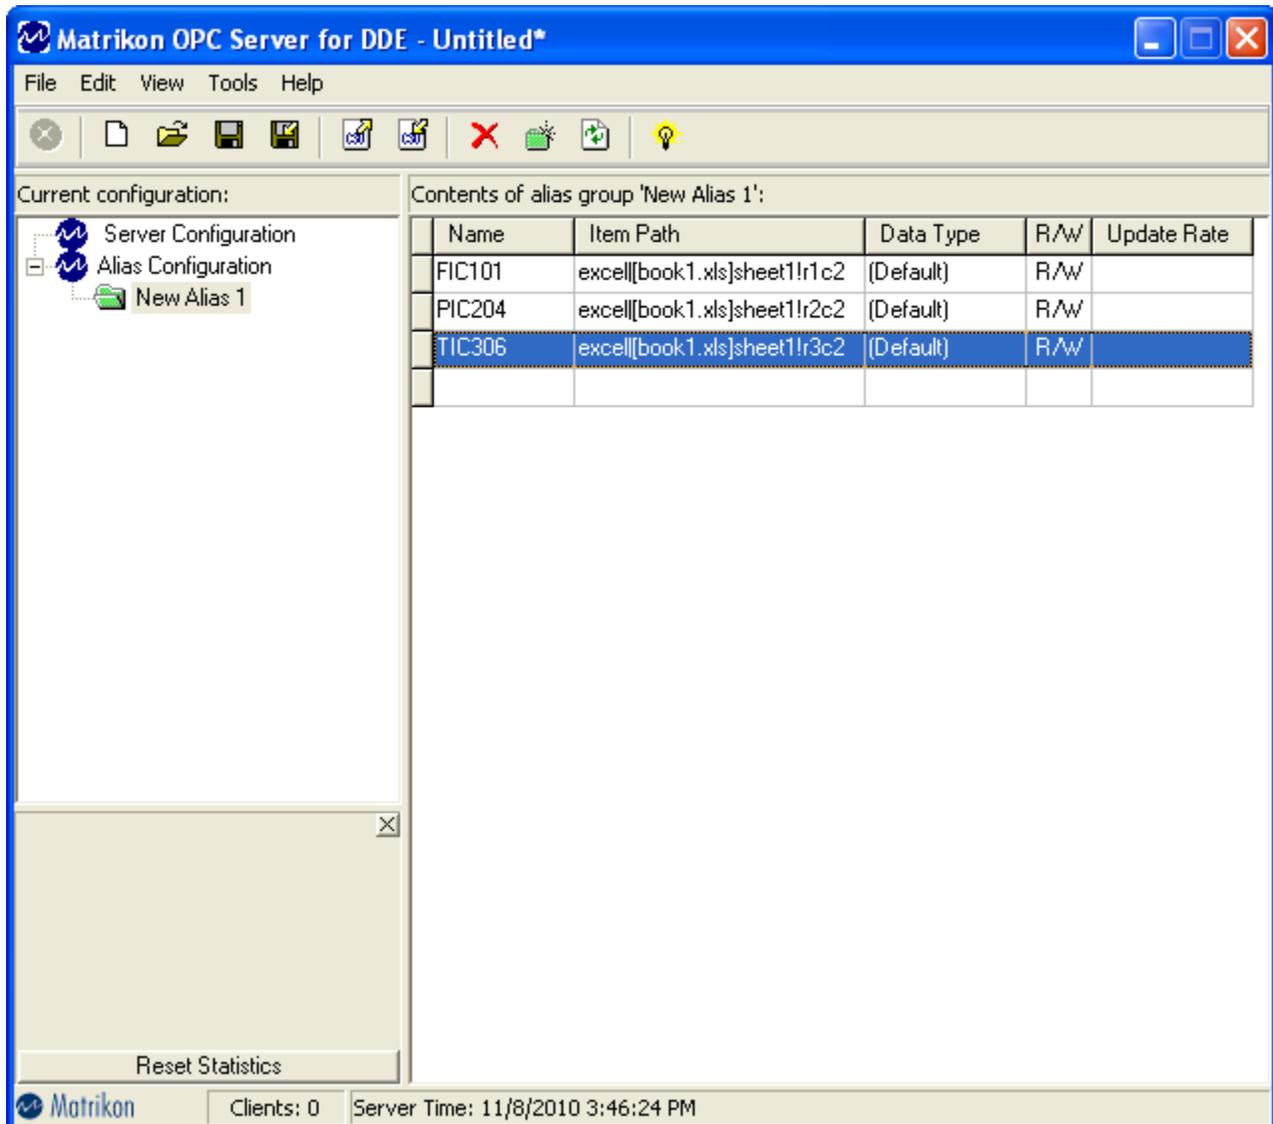

Figure 7 - New Aliases
13. The **Configuration** screen should now appear as shown in Figure 7.